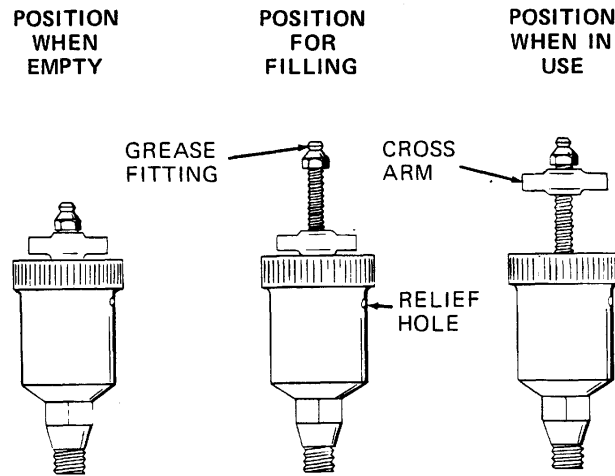

Figure 3. Automatic Lubricating Grease Cup
Before removing the seal assembly, turn the cross arm on the seal grease cup (11) clockwise until it rests against the cover (see figure 3). This will prevent the grease in the cup from escaping after the seal is removed.
Before starting the pump, fill the grease cup through the grease fitting with a good grade of No. 2 pressure gun grease until grease escapes from the relief hole. Turn the grease cup arm counterclockwise until it is at the top of the stem; this will release the spring to apply the grease to the seal (see figure 3).